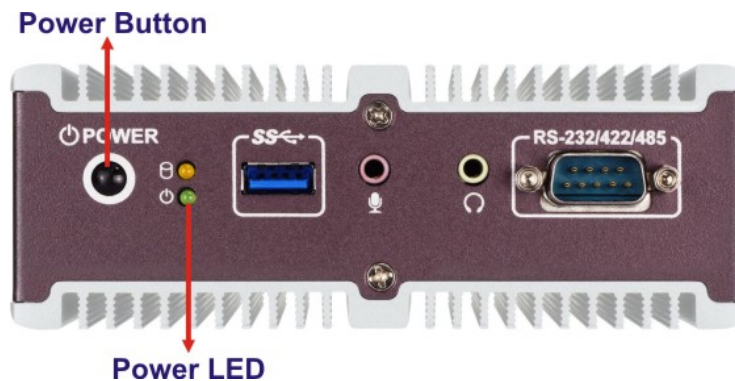

Figure 3-16: Power Button and Power LED
Step 2: Push the power button (**Figure 3-16**).